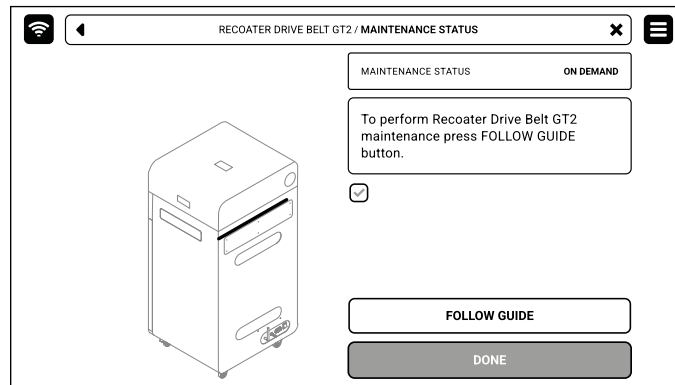

Fig. 13.74 The screen of the Recoater drive belt GT2 maintenance.
3. In this case, mark **MAINTENANCE DONE** once you have completed the procedure, and then the **DONE** button. The timer will reset to zero (fig. 13.74).